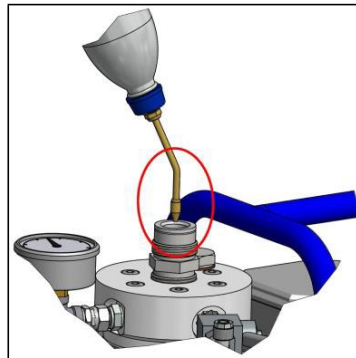

Fig.8.2.2
2. (Fig.8.2.2) Fill the inlet valve with a little cleaning / preservation oil or detergent (specifying the material manufacturer). With, for example, a screwdriver, carefully push down the valve tappet into the inlet valve. Thereby, potential air can escape from the space between the valve and membrane.